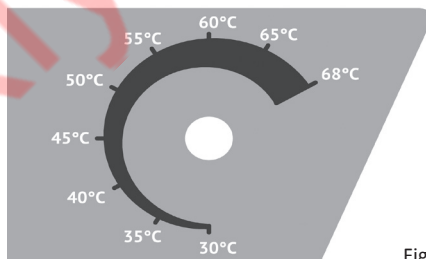

Fig. 1
Position the master switch on (I) to feed power to the dehydrator. The fan will start to rotate to its maximum speed. At this point, by acting on the **adjusting knob** (fig.1) the operating temperature can be varied from 30°C to 68°C. The **adjusting knob** adjusts the temperature of the air flow by operating directly on the thermostat. During operation a “click” is heard whenever the thermal conditions set by the thermostat is reached.